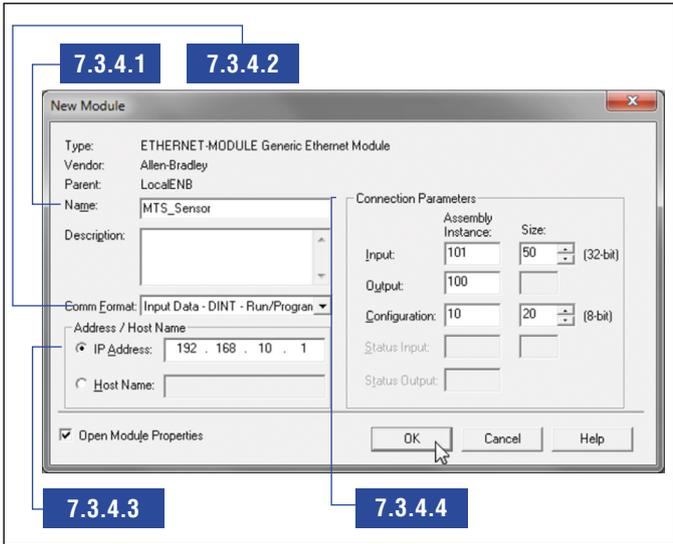

Fig. 100: NewModulewindow
7.3.4 In the “New Module” window (Fig. 100) perform step 7.3.4.1 – 7.3.4.4 to configure the new generic ethernet module to the R-Series V EtherNet/IP™ sensor.